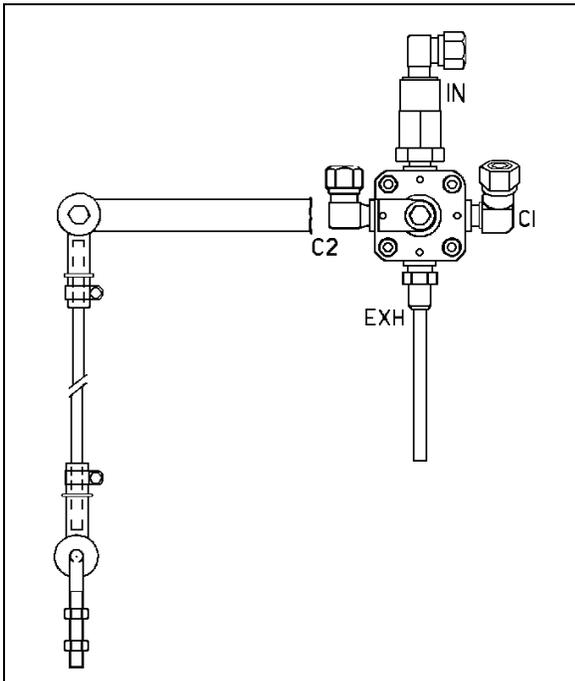

FIGURE 50: REAR HEIGHT CONTROL VALVE 16093
- Loosen the clamp on the height control valve rubber coupling and bring it up or down (Figure 50).